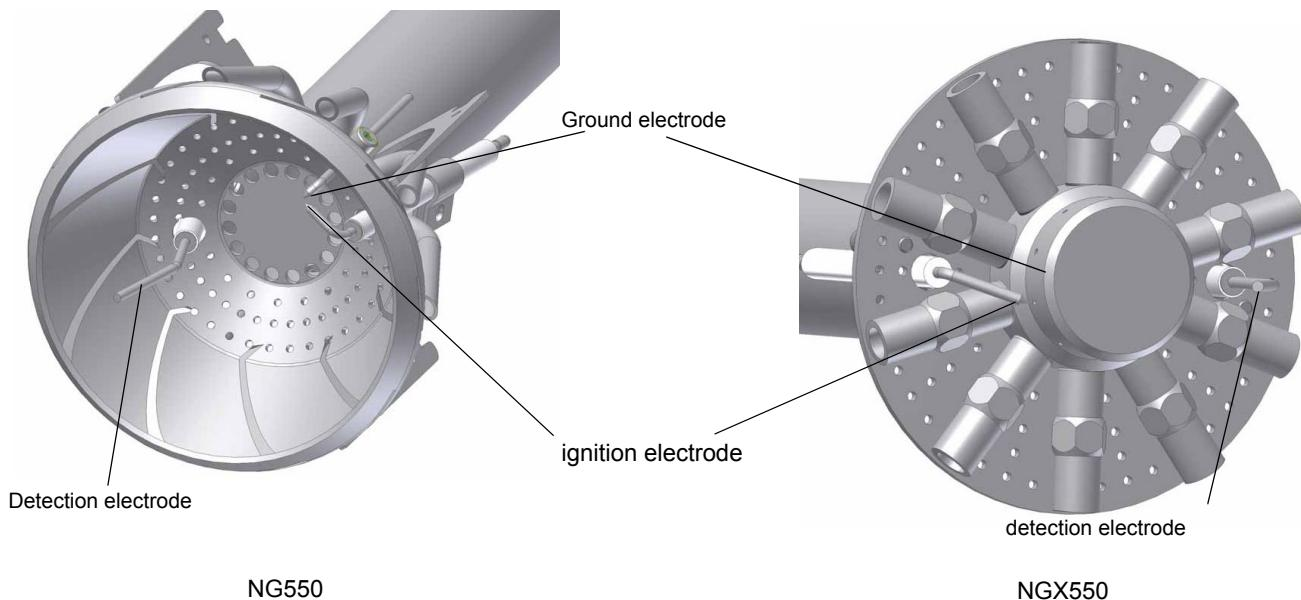
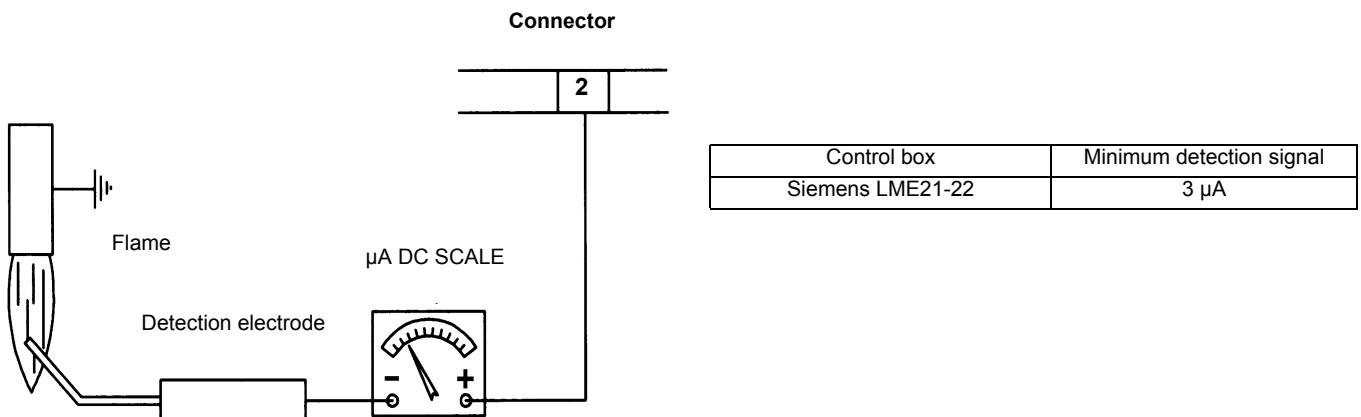

Fig. 50
Fig. 51
- Check the ignition and detection electrodes, clean and adjust if necessary (see Fig. 50). In case of doubt, check the detection current according to the schemes in Fig. 51.
ATTENTION: avoid the ignition and detection electrodes to contact metallic parts (blast tube, head, etc.), otherwise the boiler's operation would be compromised. Check the electrodes position after any intervention on the combustion head. The gap between the ignition electrode and the ground is **4 ÷ 5 mm** (see Fig. 50).
If the burner locks out, execute the following inspections. To measure the detection signals refer to the diagrams in Fig. 51. If the signal is less than the value shown, check the position of the detection electrode, the electrical contacts and if necessary replace the detection electrode (see "Electrodes position setting" on page 35).